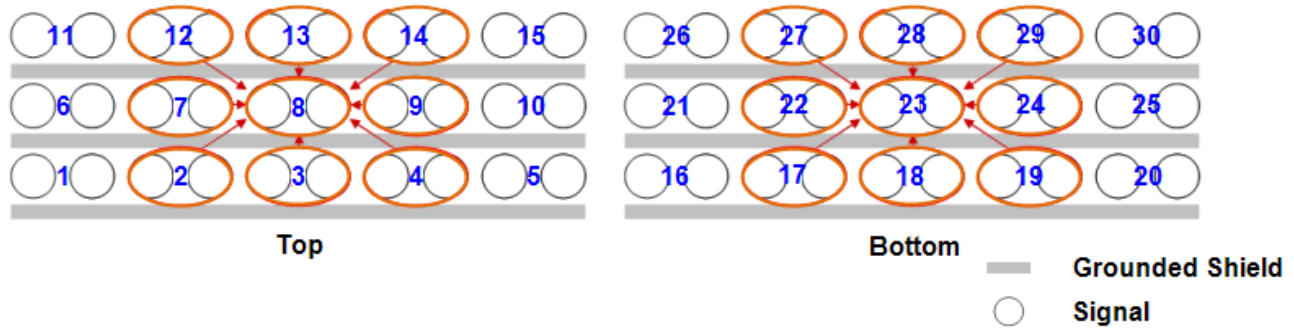
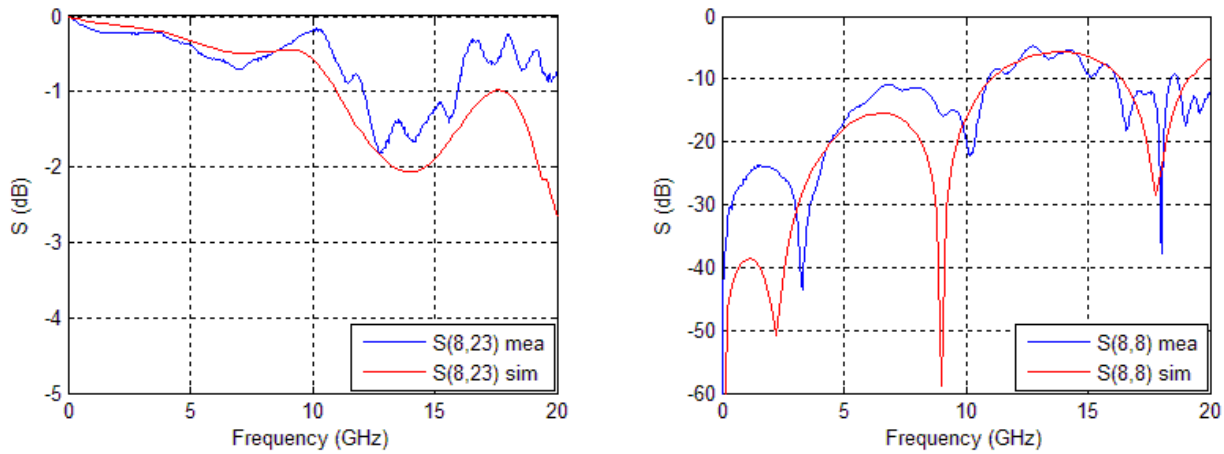
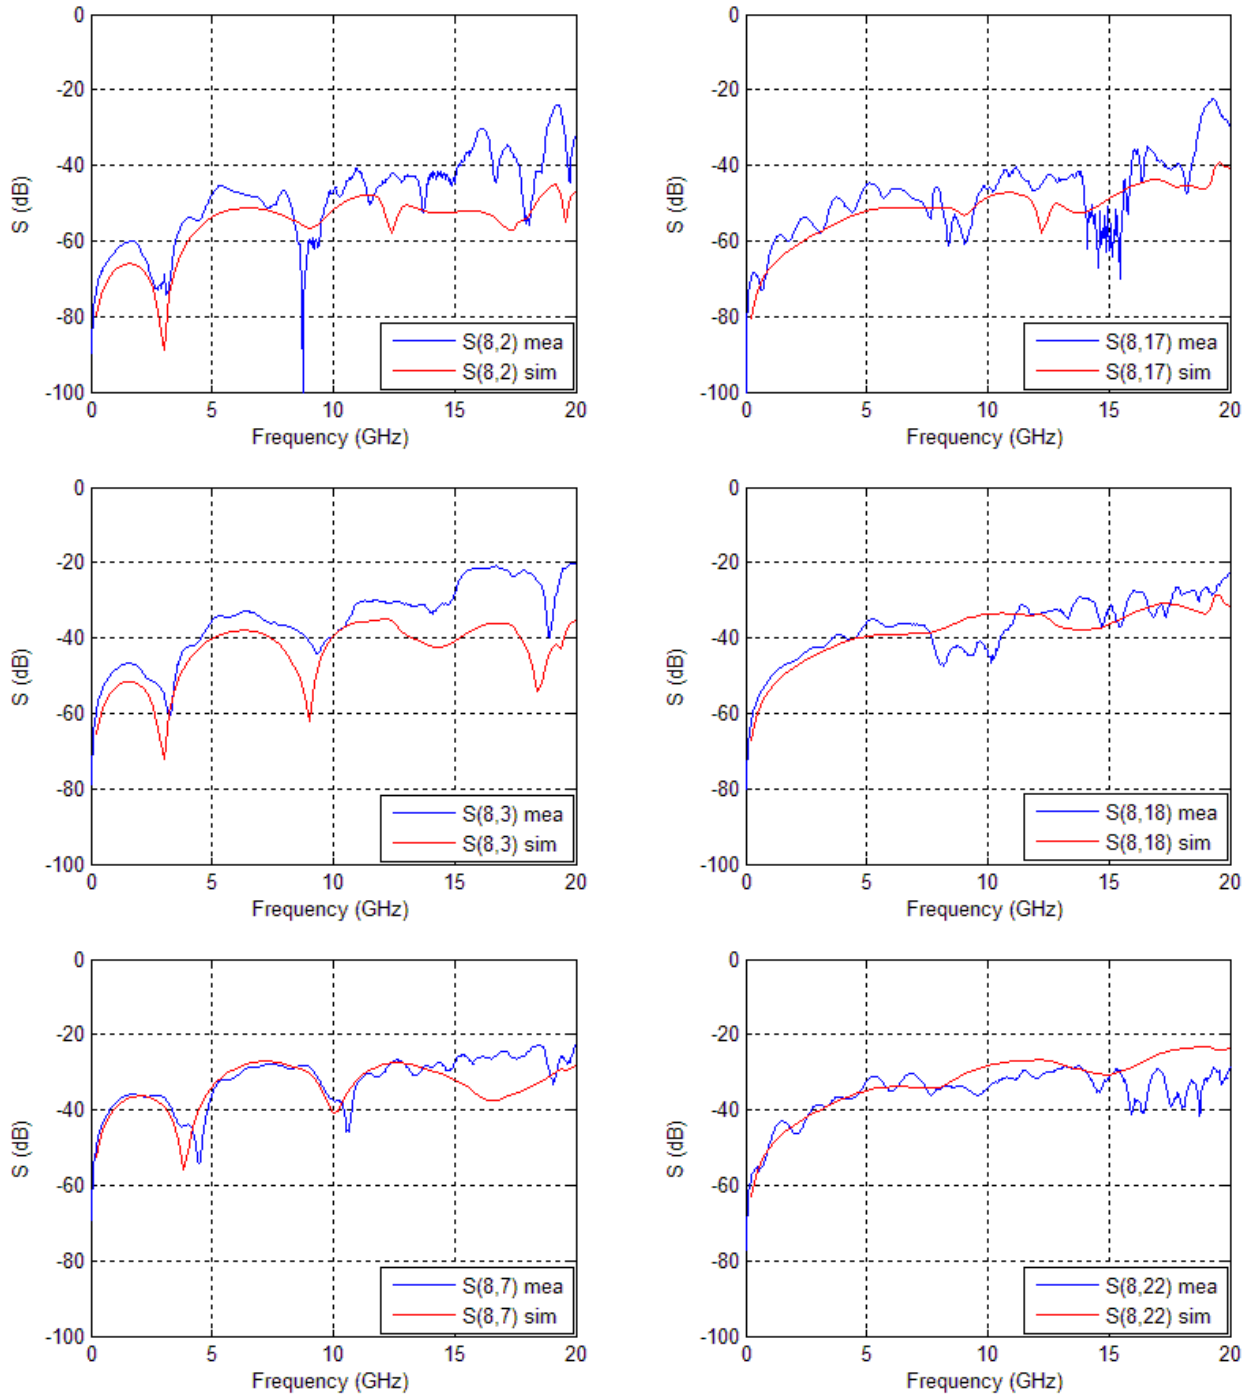

Figure 100 Differential NEXT and FEXT for center pair 8 were measured for 8 surrounding neighbors
Figure 101 Measurement vs. simulation correlation of IL and RL for center pair (for IT3-17mm) as shown in Figure 100
Figure 102 Measurement vs. simulation correlation of differential S parameters between two nearest neighbors (for IT3-17mm) as shown in Figure 100
Figure 101 and Figure 102 show the measurement vs. simulation correlation of insertion loss (IL), return loss (RL) and differential S parameters (SDD) between two nearest neighboring pairs for the center differential pair 8 (as shown in Figure 100). Good correlation was observed for all IL, RL, near-end cross-talk (NEXT), and far-end cross-talk (FEXT).
Differential NEXT and FEXT were measured for 8 surrounding neighbors of the center differential pair (see Figure 100) and converted into time-domain data. Figure 108 and Figure 109 show the maximum differential NEXT and FEXT (in %) from each neighbor with step input at 60ps (20% to 80%) rise time with 5.25 GHz bandwidth. The center box corresponds to the absolute sum of NEXT and FEXT from all 8 surrounding pairs.